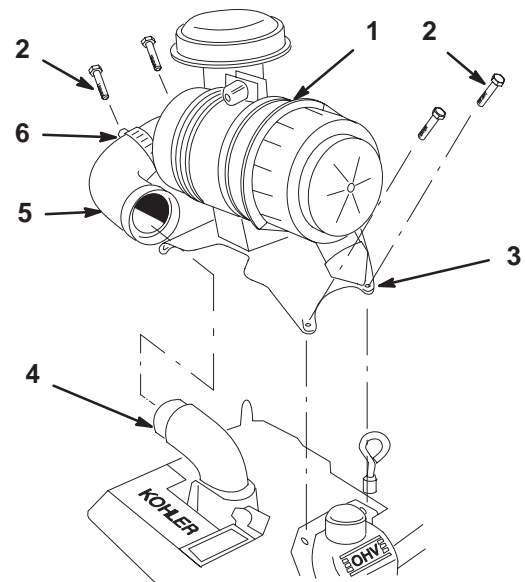

Figure 9
- Remove air cleaner form crate. Keep air cleaner and bracket together. (Fig. 9).
- Remove the top two valve cover mounting screws from both valve covers (Fig. 9).
- Place air cleaner onto engine and align holes in air cleaner bracket with holes in valve covers (Fig. 9).
- Install valve cover screws into air cleaner bracket and valve covers (Fig. 9).
- Remove plastic plugs from air intake elbow on engine and air cleaner hose (Fig. 9).
- Install hose to air intake elbow on engine and air cleaner. Tighten hose clamps to secure the hose connections (Fig. 9).